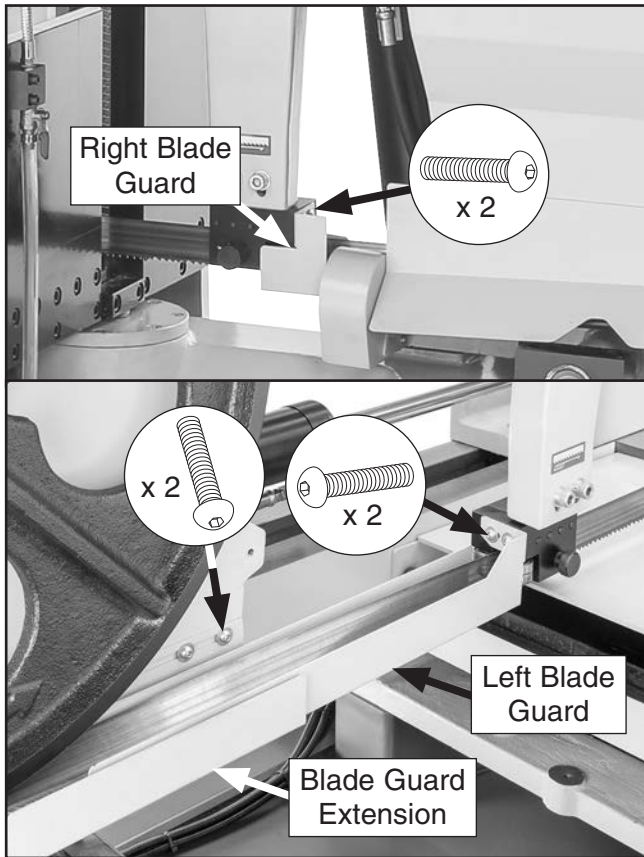

Figure 101. Blade guards and blade guard extension installed.
6. Install blade guards and blade guard extension with (6) button head cap screws and flat washers removed in **Step 4 of Adjusting Carbide Blade Guards** on **Page 66** (see **Figure 101**).